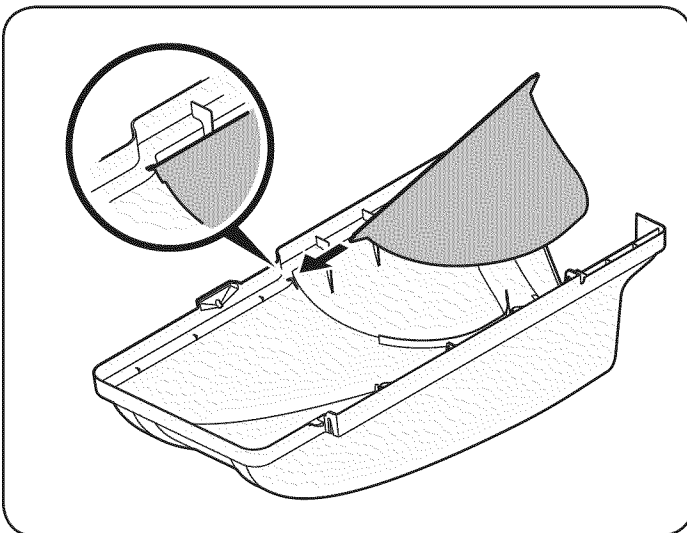
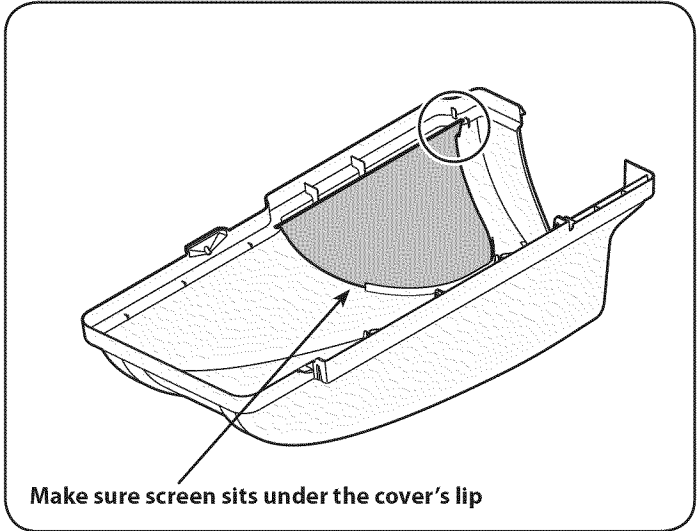

Figure 10
Figure 11
3. Install the grass catcher cover screen into the bagger cover by first inserting the end closest to the side with the cutout into the mounting hole, as in Fig. 10. Make sure to feed the screen under the lip, as in Fig. 11.
4. Clip in the other side by flexing the screen and pushing it down into the provided cutout hole. See Fig. 11.